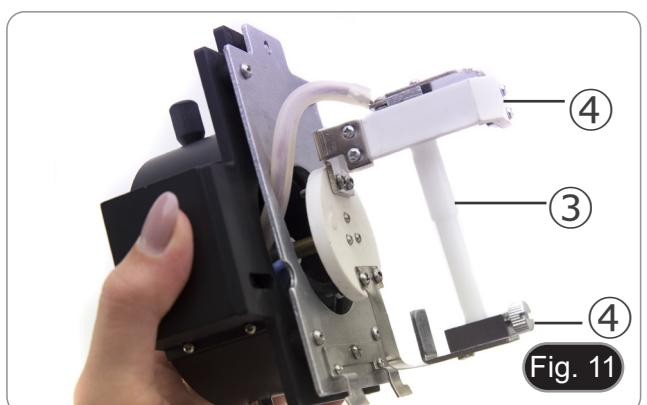

Fig. 11
2. Remove the plastic block ③ from the lamp holder (or the exhausted lamp in case of replacement) by loosening the two locking screws ④. (Fig. 11)